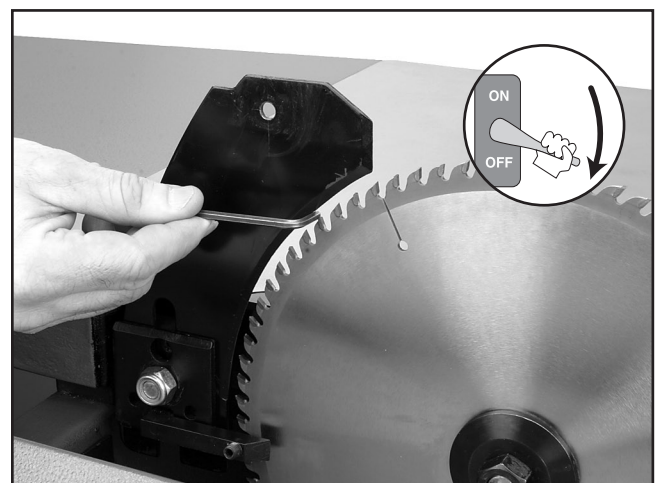

Figure 34. Adjusting the riving knife.
3. Position the riving knife about 3mm or 1/8" away from the nearest carbide tooth on the main blade. **Note:** *For a quick gauge, use the 3mm hex wrench to find the correct spacing between the blade and the riving knife, as shown in **Figure 34**.*